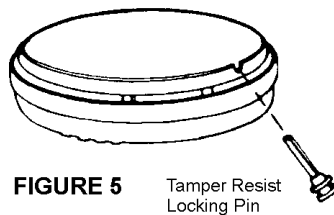

FIGURE 5 Tamper Resist
9. **USING TAMPER RESIST LOCKING PIN:** To make your smoke alarm somewhat tamper resistant, a locking pin has been provide in the bag with the screws and anchors. Using this pin will the alarm from the mounting plate. To use the pin, insert it into the hole in the side of the alarm after the alarm has been installed on the mounting plate (see Figure 5).